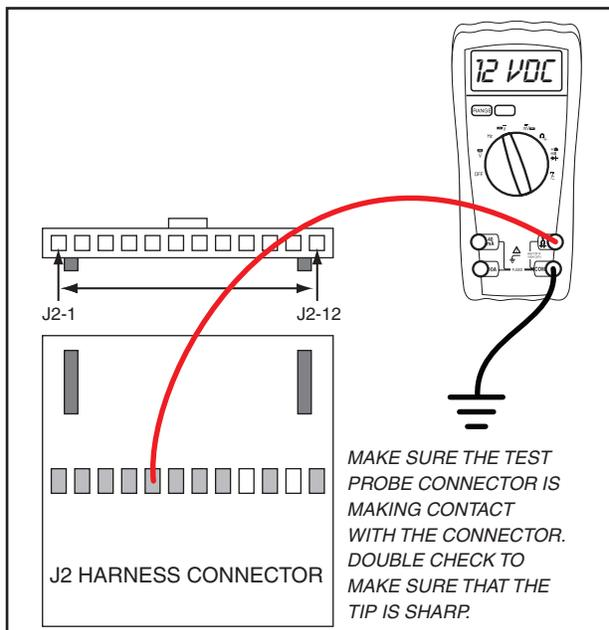

Figure 6-44. – Test Wire 167, Step 2
2. Remove the J2 connector from the circuit board. Connect the positive meter test lead to Pin Location J2-5, Wire 167 on the removed harness connector. See Figure 6-44. Connect the negative meter test lead to frame ground. Place the Start-Run-Stop switch (SW1) to start. The engine will crank and 12 VDC should be measured. If 12 VDC is measured, stop testing. If 12 VDC is not measured continue testing.